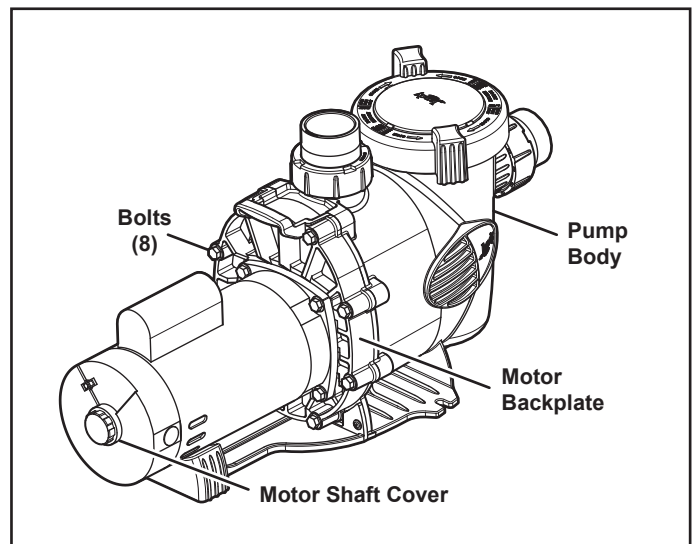

Figure 3. Remove the Pump Housing
3. Using a 9/16" wrench, loosen the bolts connecting the pump body to the motor backplate. See Figure 3.
7. Remove the motor shaft cover on the back of the motor by twisting the hex-head screw with a 90° crescent wrench, see Figure 3. The motor shaft will be exposed.